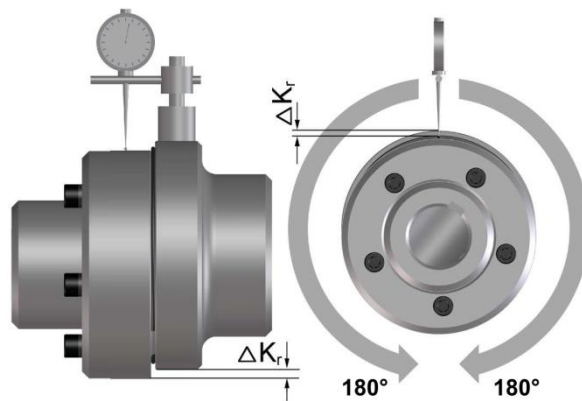

Fig. 13
- ❑ Calibrate one entire rotation (360°). Determine the largest deviation ΔK_{r1} as well as the smallest deviation ΔK_{r2} (Fig. 13). Calculate the radial misalignment $\Delta K_r = 0,5 \times (\Delta K_{r1} - \Delta K_{r2})$.